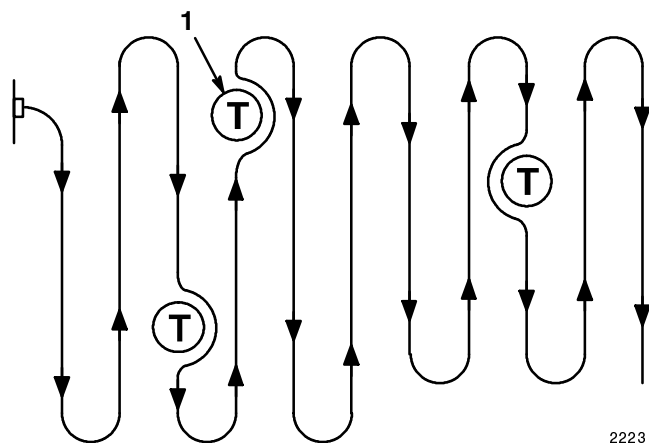

Figure 13
1. Begin mowing near the electrical outlet and work outward (Fig. 13). Mow back and forth.